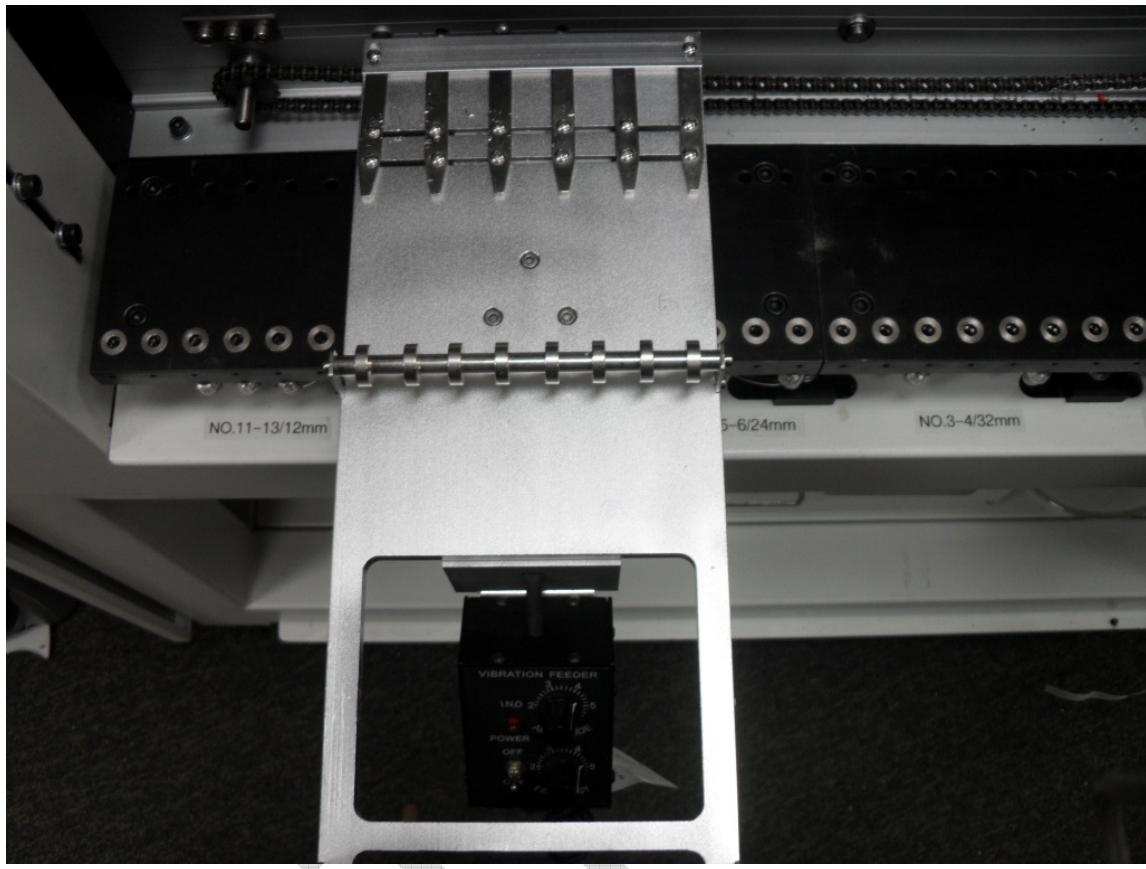

Figure 4.19: Vibratory Feeder installed on a Yamaha feeder platform
8. Next, find NOZZLE POSITION Z by placing a sample component (of the type to be used during operation; an example can be seen in Figure 4.19) on the part slot of the feeder directly below the nozzle and then manually lowering the nozzle using the NAVIGATION PANEL until it just touches the surface of the component. Once that happens, record the CURRENT POSITION Z as the NOZZLE POSITION Z.